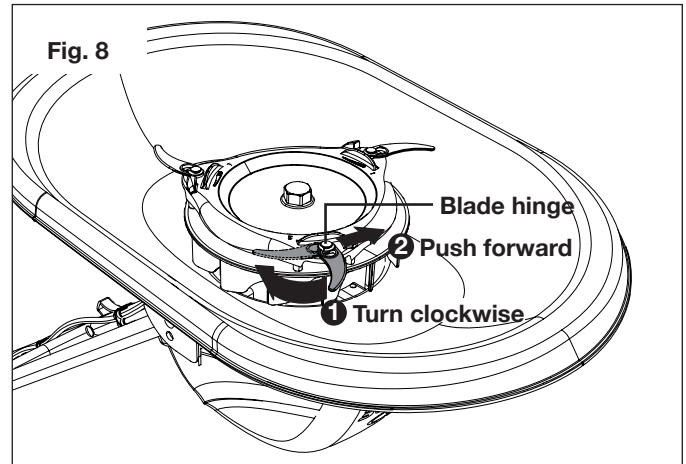

Fig. 8
2. The blades come preassembled on the lower hinge setting. To remove the cutting blade, use one hand to secure the blade hub, and use your other hand to rotate the blade clockwise first, and push it forward until the blade hinge clicks into the bigger hole on the blade. Then the blade can be removed from the blade hinge (Figs. 8 to 9).